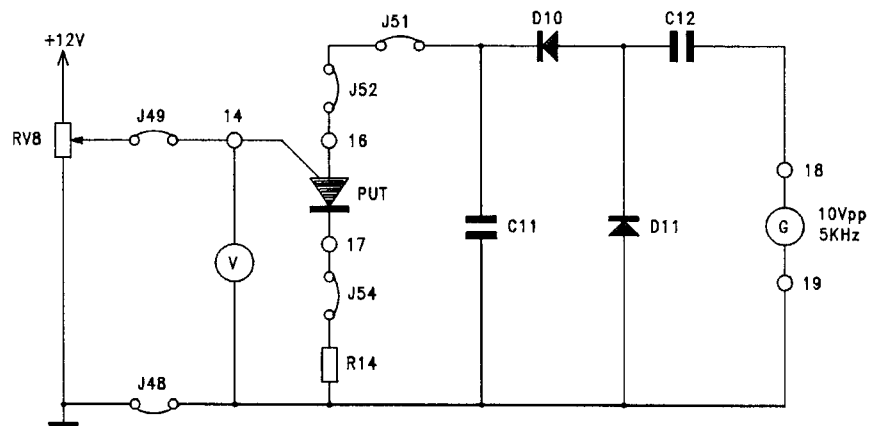

fig. B10.8
- Connect jumpers J51, J52, J54, J49, J48, the voltmeter between the gate of the PUT and the ground, to produce the circuit of figure B10.8